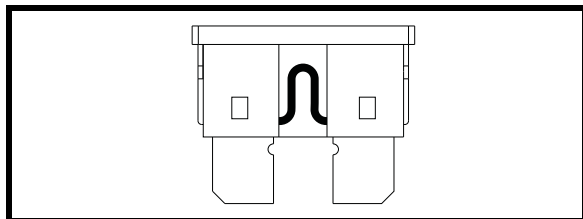

Figure 26. Working Fuse
2. Examine the fuse to be sure it is blown. **See figures 26 and 26A.**